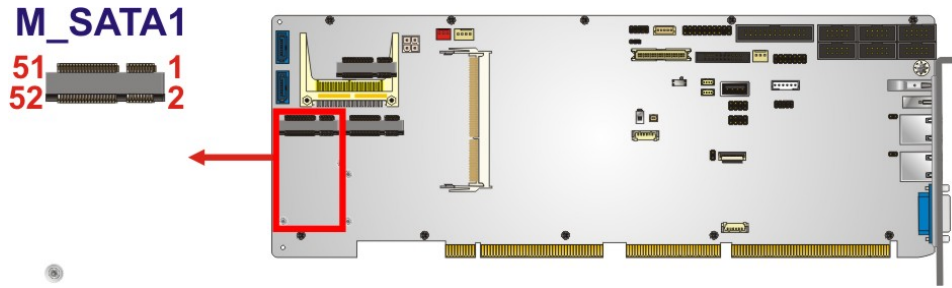

Figure 3-19: mSATA Slot Location
- CN Location:** See **Figure 3-19**